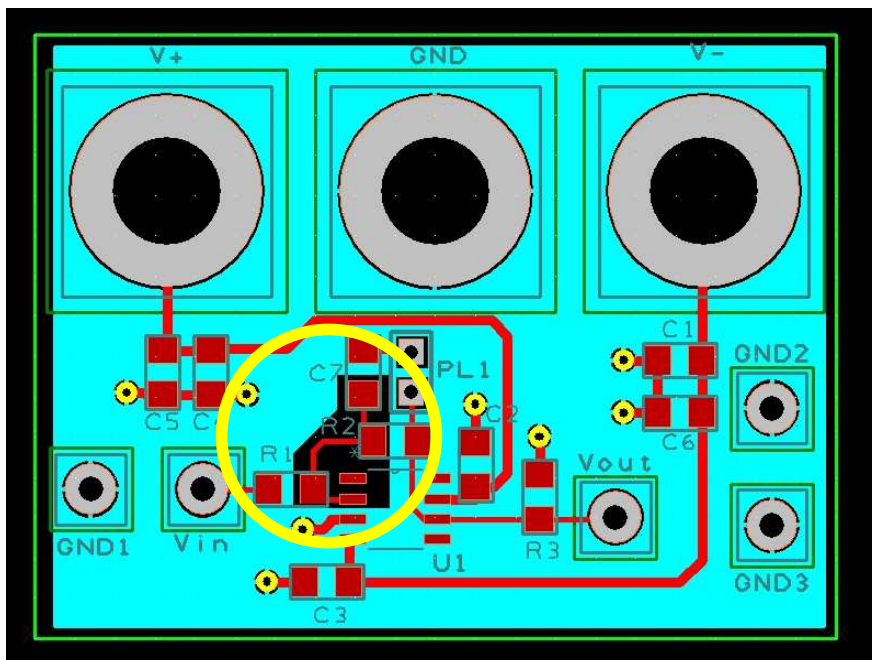

Figure 3. Sample board design
1. **Keep power lines away from sensitive nodes:** Power traces carry a high voltage and the amount of charge on a capacitor is equal to the voltage difference multiplied by capacitance. Although the capacitance will be small due to the physical layout, the potentially large voltage difference between a power trace and signal trace will cause charge to build up. When the signal voltage changes the charge buildup can be injected into the circuit causing noise in the circuit. As shown in Figure 3, the positive and negative power traces go around the circuit to avoid the most critical node, the input node, to the op-amp (circled in yellow).
2. **Cut the ground plane:** *NOTE: This suggestion comes at a price and should only be used when necessary. Since cutting the ground plane increases the impedance of the ground plane, only do it for nodes that are very sensitive to capacitance such as input nodes to an operational amplifier.* In Figure 3, the input node to the operational amplifier is circled. As already discussed, inputs to operational amplifiers are particularly sensitive to capacitance which can cause circuit instability. Multi-layer PCB are essentially capacitors, conductive plates separated by an insulator, and therefore every node above the ground plane will have some capacitance. To mitigate this capacitance, the ground plane (and all other planes below or above the node) can be cut, removing the conductive plate that the node would couple with.